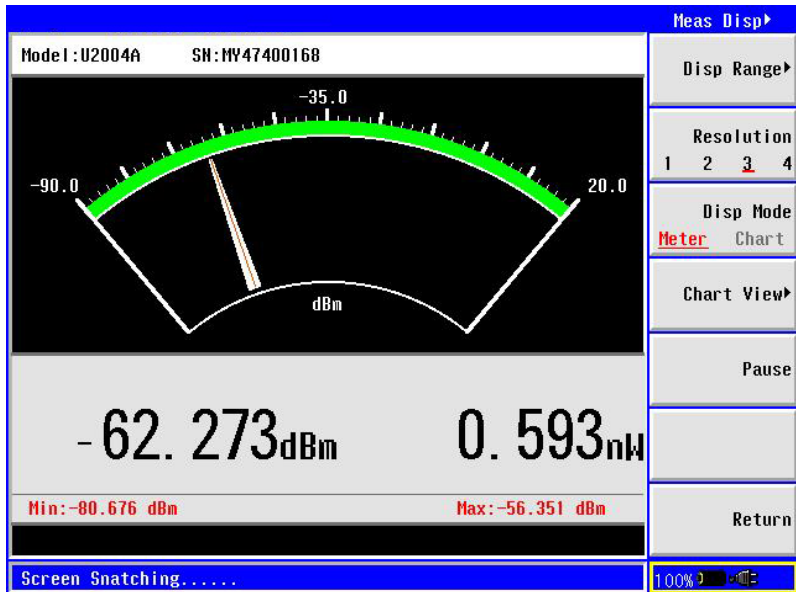

Figure 16. Meas Disp menu allows you to configure the display measurement and resolution
4. Press {Return}. > {Meas Disp ▶} (see Figure 16)